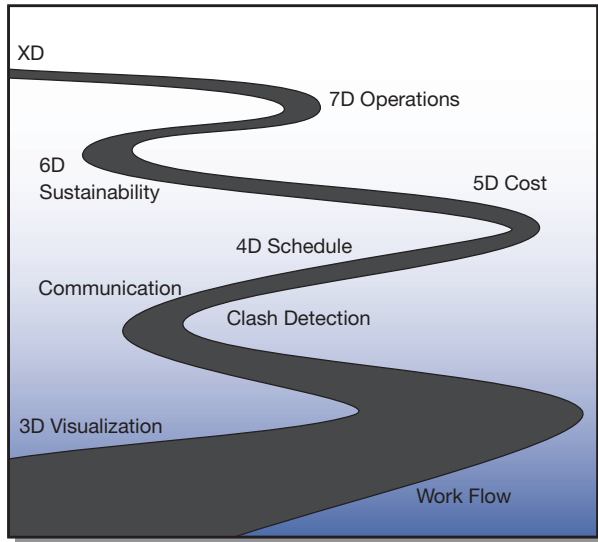

Figure 1.4 BIM as process: Where on the path are you? How far will you take it?
- Own the software but perhaps are not completely utilizing it or are utilizing it less satisfactorily than you had hoped—not for its highest and best use, or to its full advantage. (See Figure 1.4.)